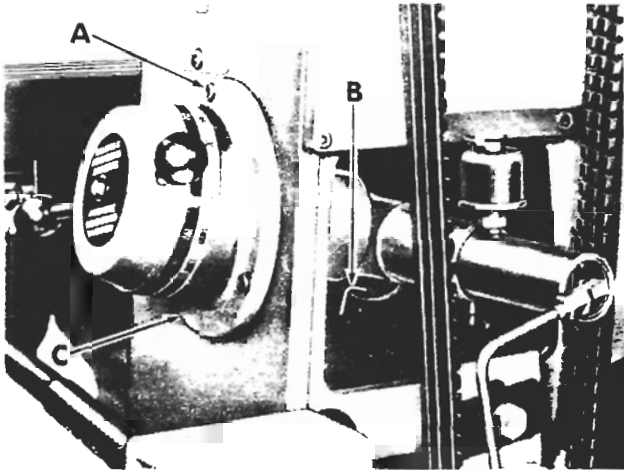
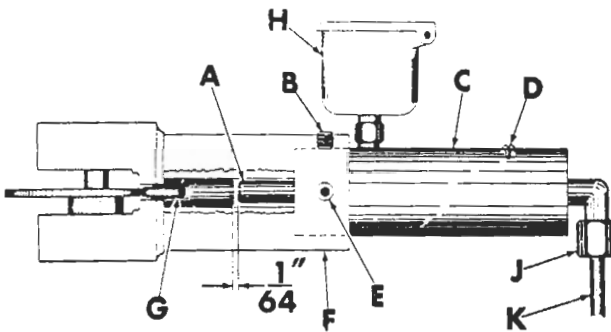

Figure 12
Figure 13
3. Turn variable dial to lowest range and lock in place with pin (B, fig. 12).
4. Remove nut (J, fig. 13) on end of variable control cylinder -- catching oil in pan.
5. Remove three screws (A, fig. 12) and remove variable control assembly (C) from column.
6. Remove set screws (B) and (E, fig. 13) in variable cam housing (F).
7. Pull out upper variable control cylinder (C).
8. Remove oil reservoir (H) and drain oil from old variable control cylinder.
1. Install oil reservoir (H) on new variable control cylinder.
2. While holding variable speed dial against low speed stop, slide control cylinder (C) into variable housing (F) until variable plunger (A) is about 1/64" from cam roller plunger (G). Lock in place with set screws (B) and (E).
3. Install variable control assembly in column and tighten three screws (A, fig. 12).
4. Install hydraulic line (K, fig. 13) and tighten nut (J).
5. Remove bleeder screw (D) and fill oil reservoir.
7. Install bleeder screw (D).
8. Remove lock pin (B, fig. 12).
- B. Loosen bleeder screw (D, fig. 13) a few turns until oil starts coming out around the screw.